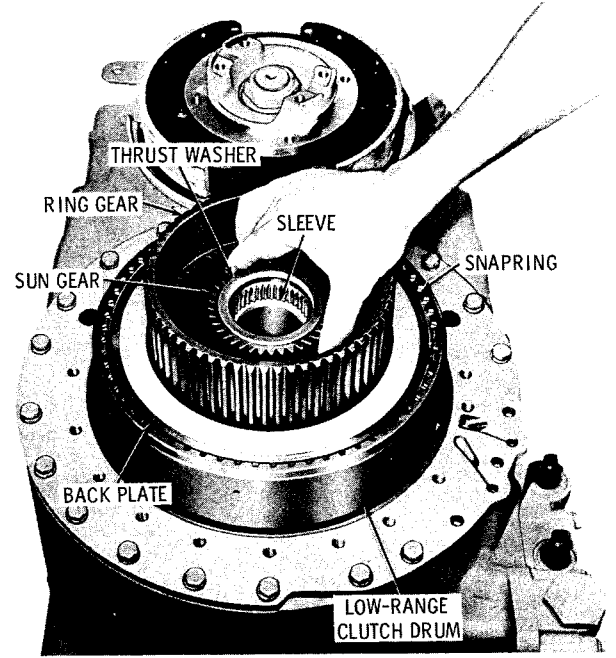

Fig. 7-11. Installing high-range sun gear (-1 model)
(7) Install the internal snapping which retains the clutch back plate (fig. 7-11).
(8) Install the high-range planetary sun gear, thrust washer upward, onto the splines of the sun gear sleeve (fig. 7-11).